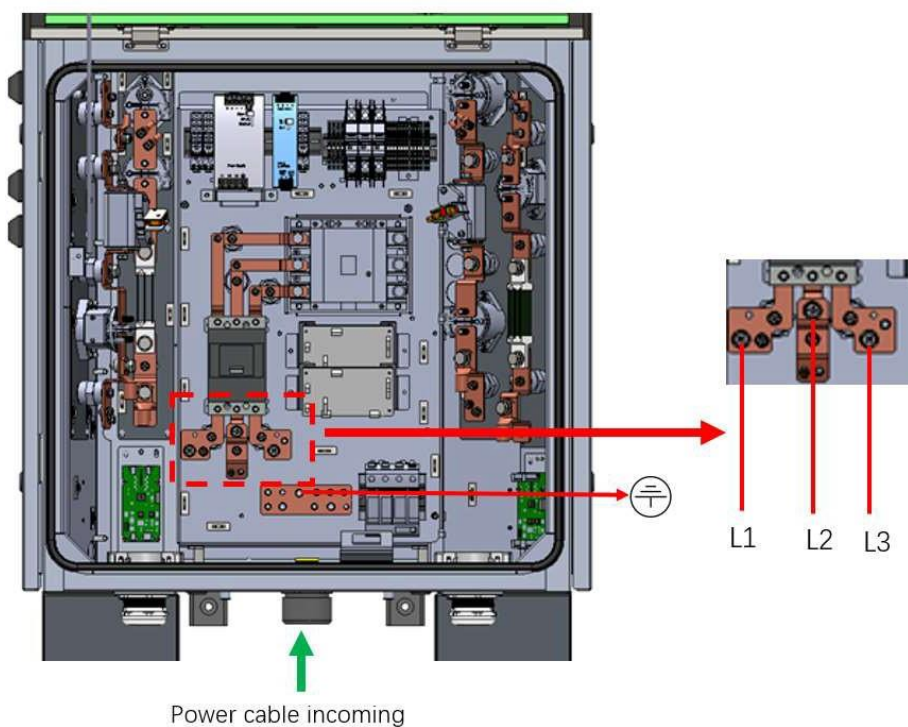

Figure 15 Wiring diagram
(8) Wiring: Insert the power cable into the charger main body from the cable gland on the bottom. The cable needs to be protected with corrugated tube (1.5 inch). Connect the L1 \ L2 \ L3 three-phase to the corresponding incoming terminals, and the PE wire to the PE copper bar. Refer to Figure 15, the phase sequence shall not be incorrect.